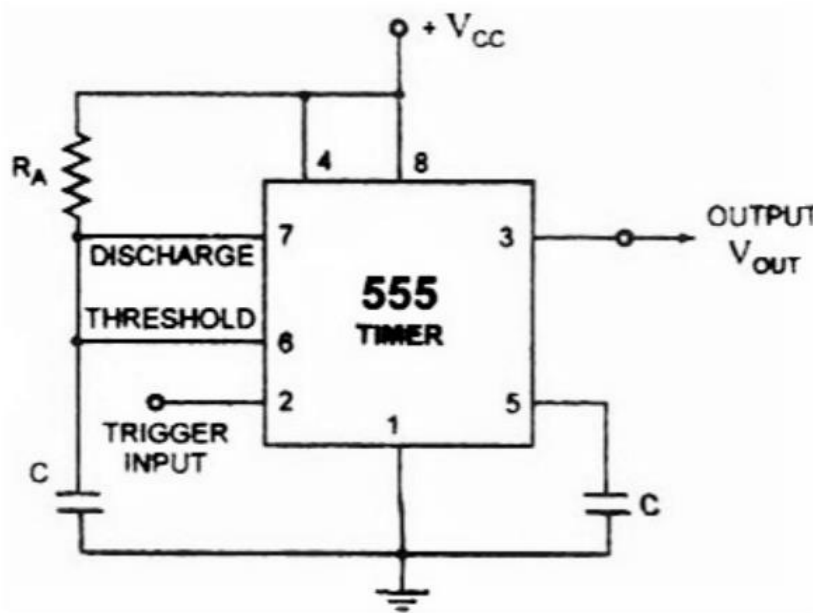

Fig. 3 Monostable Multivibrator
1. Build the circuit of Fig. 3 on bread board. Use general purpose IC-555 Timer. Connect a ceramic capacitor of value $0.01 \mu\text{F}$ at Pin5 (control pin). Apply the DC voltage **6V** from the DC voltage source to Pin 8 (V_{CC}) &